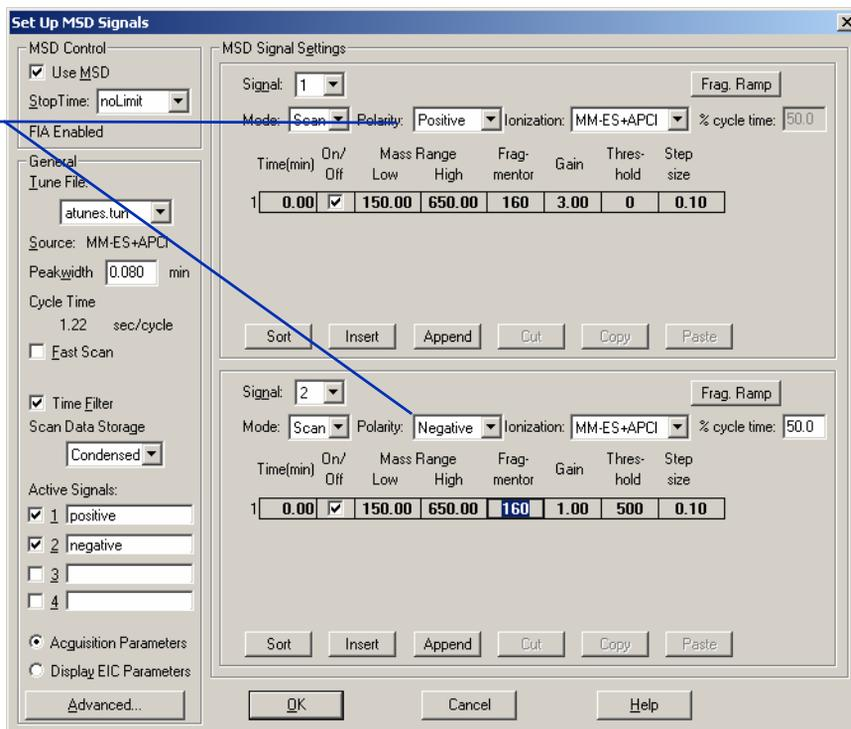

Figure 21 Positive/Negative polarity switching using Set Up MSD Signals dialog box
- 7 Modify the settings so that Signal 1 has **Positive** polarity and Signal 2 has **Negative** polarity as shown in Figure 21.